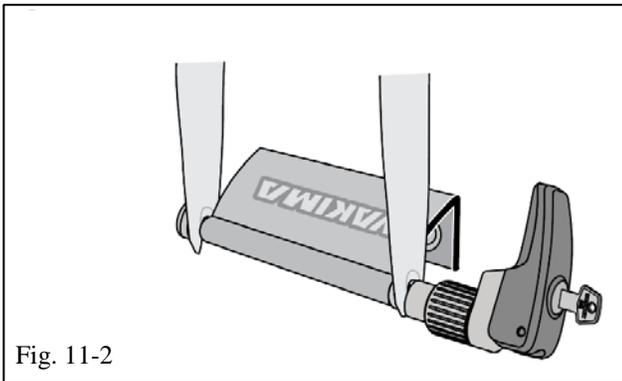

Fig. 11-2
- (b) Lock the Fork with the Supplied Key (Fig. 11-2).